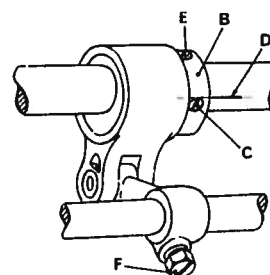

fig. 6
- Set eccentric B (fig. 6) for the evasive action of the looper ensuring that the mark D on the main shaft runs as a tangent to screw C.
- See that the looper, in its stroke to the left, passes as close as possible but without touching (about 0.05 mm) the needle scarf of the righthand needle. If this is not the case, release screw F (fig. 6) lifting or lowering it slightly according to needs and retighten.